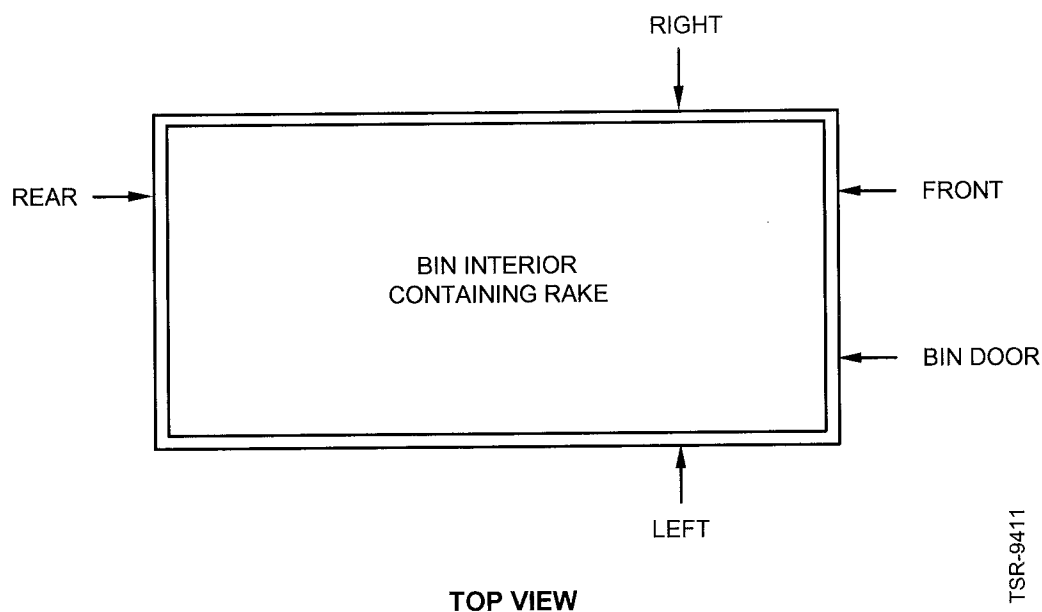

Figure 3-2 Rake Bin Orientation
- Establish front and rear, and left and right of the rake by facing the rake door. Refer to Figure 3-2.